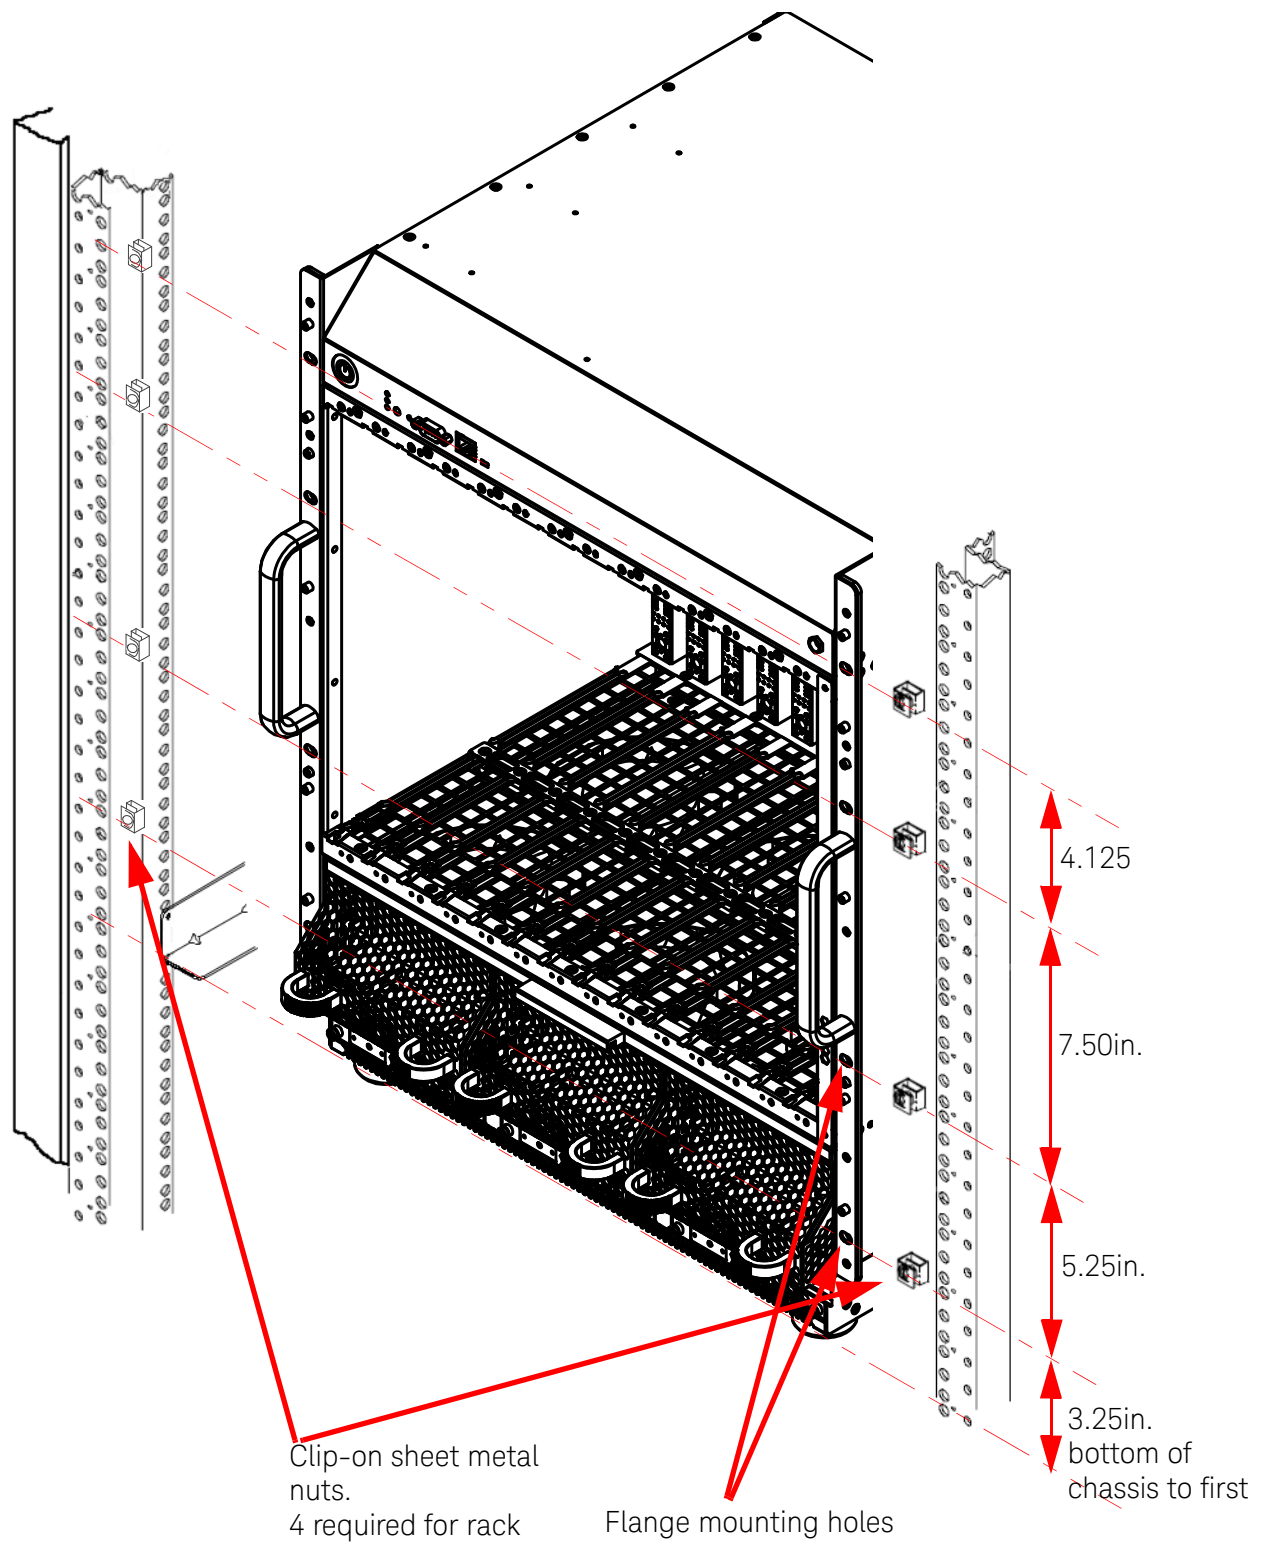

Figure 7 Rackmounting the Agilent M9514A AXIe Chassis
- 7** Refer to Figure 7 as a template for placing the clip-on sheet metal nuts. Mark the position the flange mounting holes on the rack's vertical columns where the chassis is to be mounted. Slide clip-on sheet metal nuts over the rack holes to be used by the rack mount flanges.